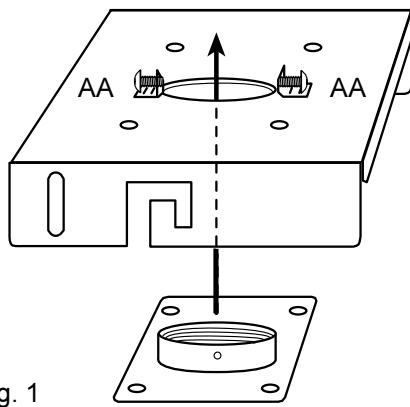

Fig. 1
2. Slide Top Tilt Support over Mounting Adaptor (Fig. 1)